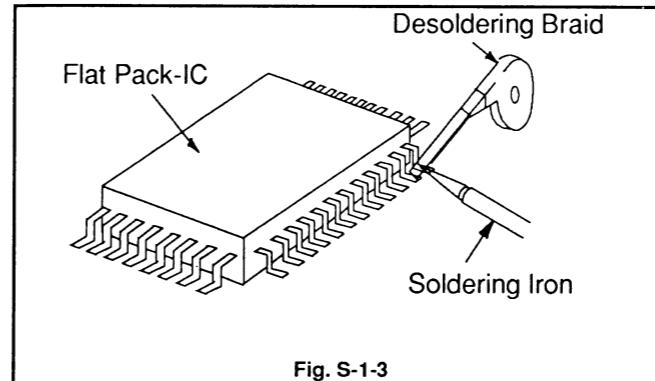

Fig. S-1-3
- Using desoldering braid, remove the solder from all pins of the flat pack-IC. When you use solder flux which is applied to all pins of the flat pack-IC, you can remove it easily. (Fig. S-1-3)